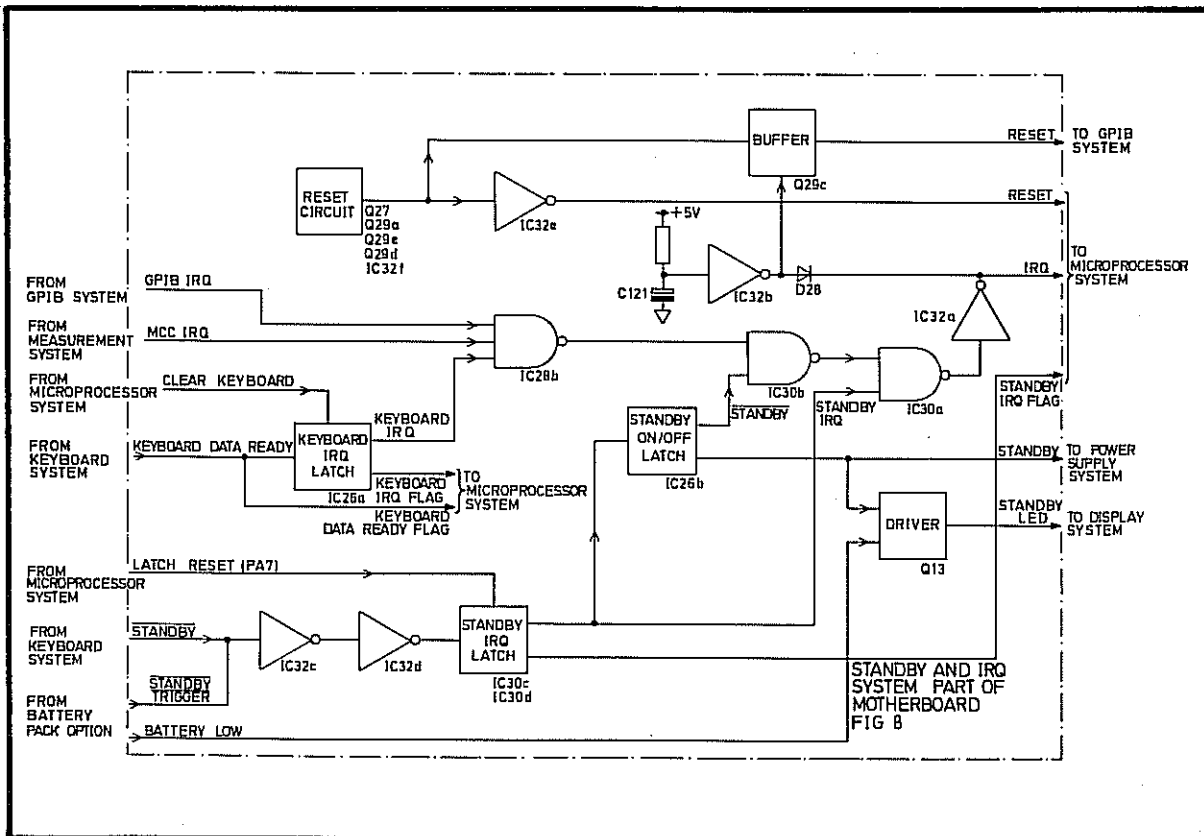

Fig 6.9 The Standby and IRQ System
- 76 The system generates reset signals for the microprocessor and GPIB interface, and the standby switching signal for the power supply system. It also combines the IRQ signals from the GPIB interface, the measurement system and the keyboard system for connection to the microprocessor. A block diagram is given in Fig 6.9.